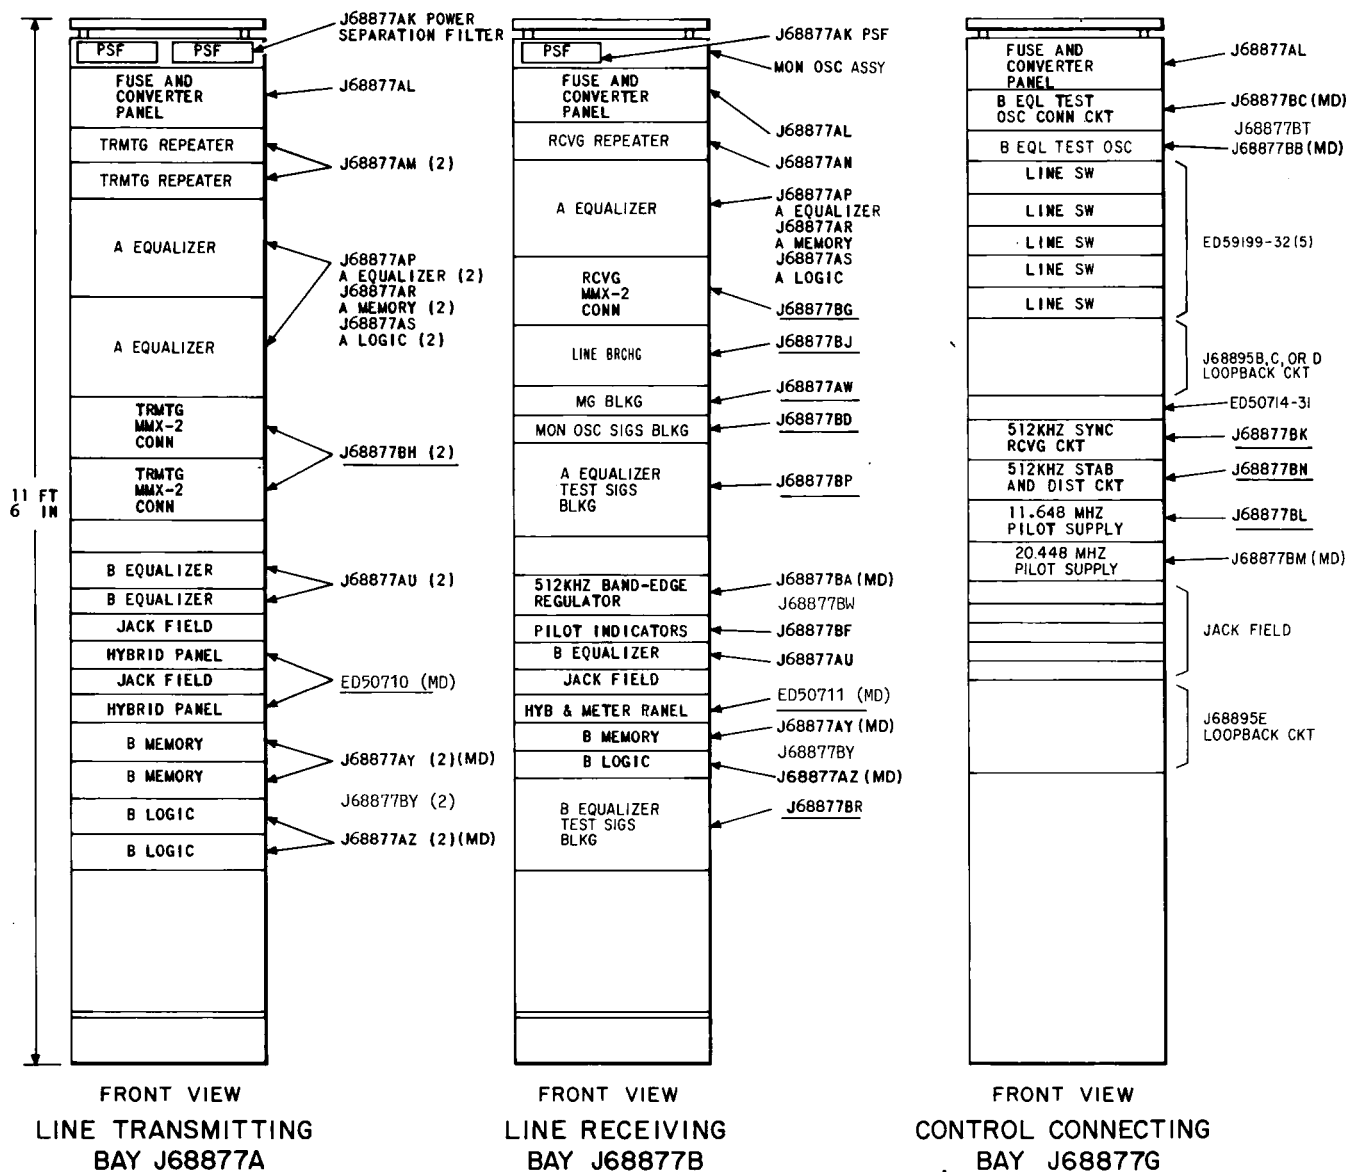

Fig. 2—L4 Equipment Arrangements in Main Station Bays
1.04 Line connecting equipment is mounted in the main station line transmitting, line receiving, and control connecting bays (Fig. 2). These bays also contain the main station repeaters, equalizers, memory and logic units, coaxial line switches, loopback circuits of the remote control system, dc-dc converters, and fuse panels.
1.05 *Line transmitting bay* J68877A (Fig. 2) is factory wired to serve two lines but may be initially equipped to serve only one line. The following line connecting equipment may be provided
1.06 *Line receiving bay* J68877B (Fig. 2) is factory wired and equipped to serve one receive line. The line connecting equipment provided in this bay may include the following, depending on the requirements of the line and of the station.
1.07 *Control connecting bay* J68877G (Fig. 2) is factory wired to serve ten receive and ten transmit lines in a route. A *route* is the transmit and receive coaxial lines in one cable extending in one direction from a main station.